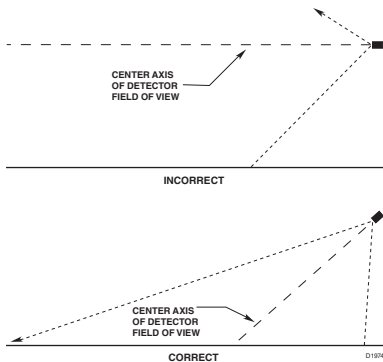

Figure 1—Detector Orientation Relative to Horizon
- The detector should be aimed downward at least 10 to 20 degrees to allow lens openings to drain. See Figure 1. **The detector should be positioned so that its FOV does not cover areas outside the hazardous area.** This will minimize the possibility of false alarms caused by activities outside the area requiring protection.
(See Figure 1 for Correct Detector Orientation.)